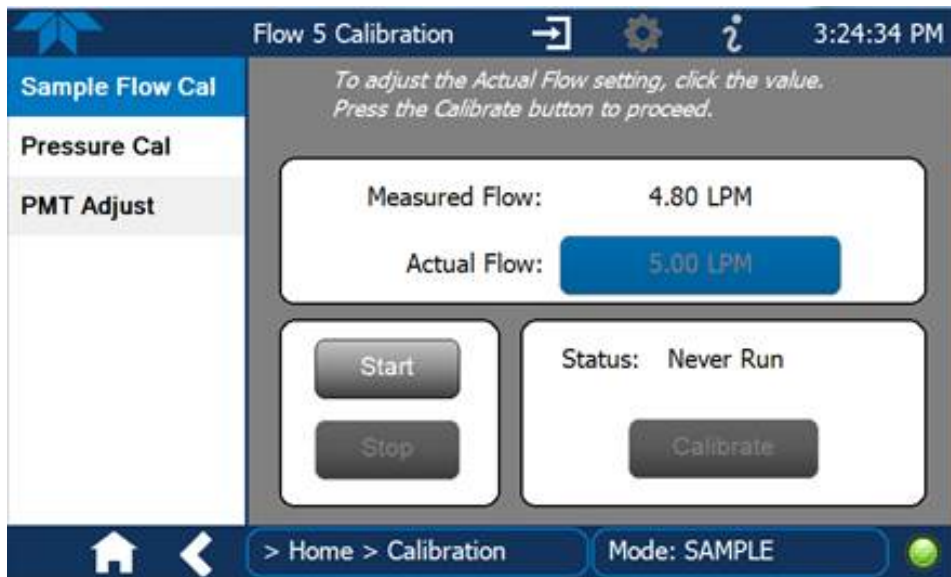

Figure 15. Sample Flow calibration screen.
8. Compare the “Measured Flow” in this screen to the Flow Standard (Figure 15) and determine if these values differ by more than 5%, (e.g., outside of 4.75 – 5.25 lpm for sample flow, if the sampler reads 5.00)